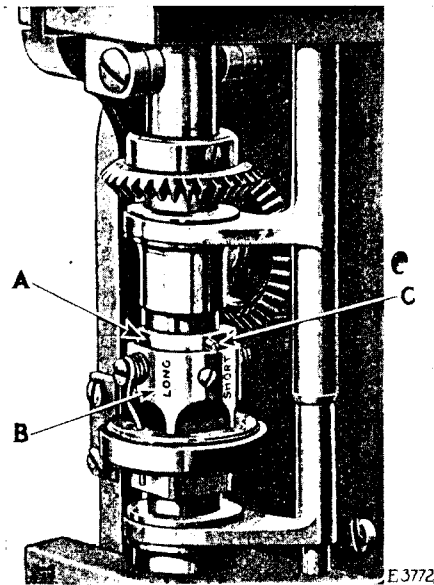

Fig. 37. Stitch Regulator
The length of stitch is regulated by means of the eccentric stitch adjusting collar (A, Fig. 37). To shorten the stitch, turn
the handle (K, Fig. 10) to the right, then grasp the stud (C, Fig. 37) and turn the eccentric collar (A) toward you or around to the right in the direction of the word "short" stamped on the feed lever bracket (B, Fig. 37). To increase the length of stitch, turn the eccentric collar (A) away from you or around to the left in the direction of the word "long" stamped on the feed lever bracket. Never move the stud (C) beyond the words "short" or "long" stamped on the feed lever bracket.